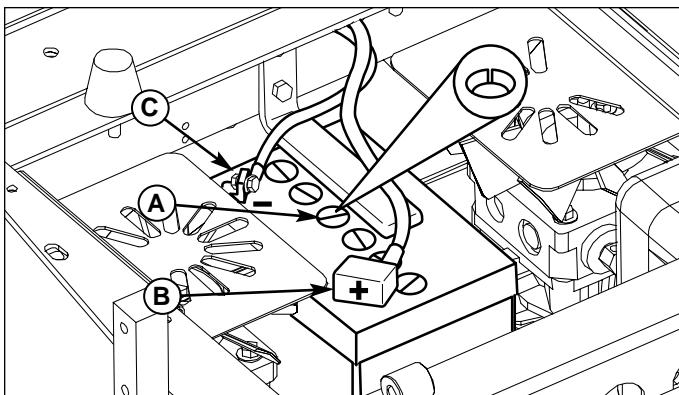

Figure 12. Battery Compartment
2. Remove the battery filler cap (A, Figure 12). Fluid must be even with the split ring full mark. If not, add distilled water.